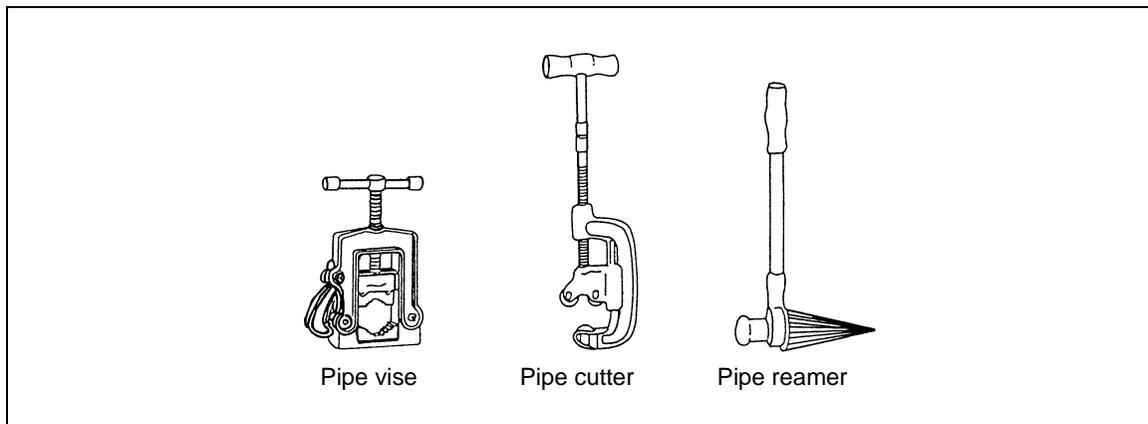
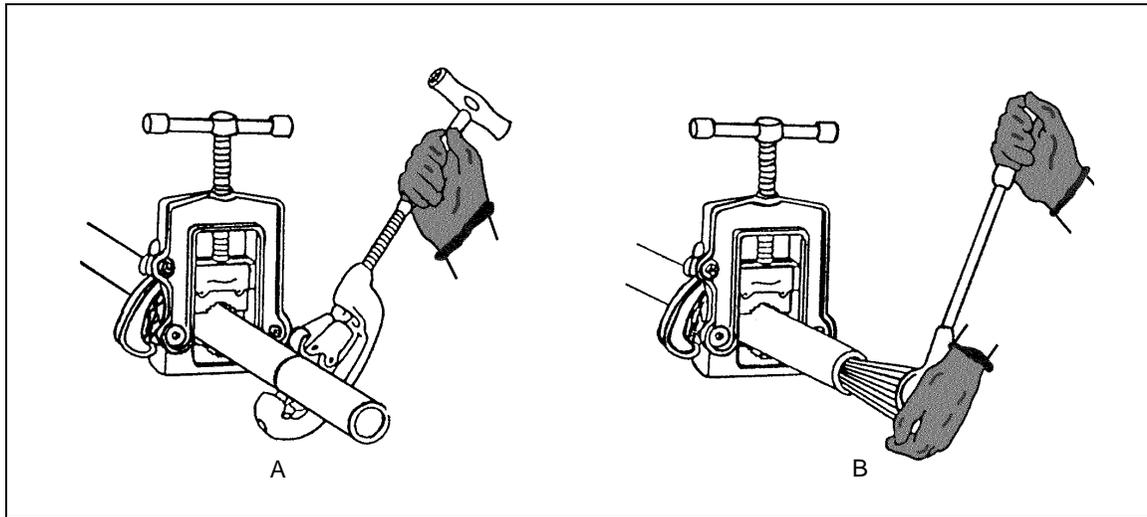

Figure 6-26. Steel-Pipe Tools
Figure 6-27. Cutting and Reaming Steel Pipe
6-57. Steel pipe is cut and reamed using a vise, pipe cutter, and reamer (*Figure 6-26*). To avoid pipe waste, use *Figure 6-27, page 24*, and the following steps:
- Step 4.** Place the cutter around the pipe with the cutting wheel exactly on the mark. The rollers will ensure a straight cut (*Figure 6-27, A*). If using a three-wheel cutter, place the cutting wheel of the movable jaw on the mark; ensure that all three wheels are at right angles to the centerline of the pipe.
- Step 8.** Push the reamer into the pipe. Turn the reamer clockwise in short, even strokes, while keeping steady pressure against the pipe (see *Figure 6-27, B*) until the inside burrs are removed.